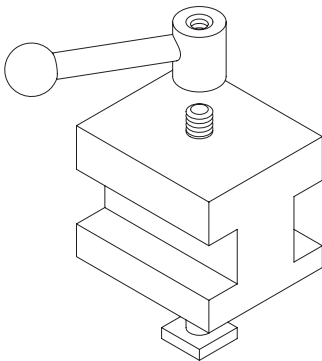
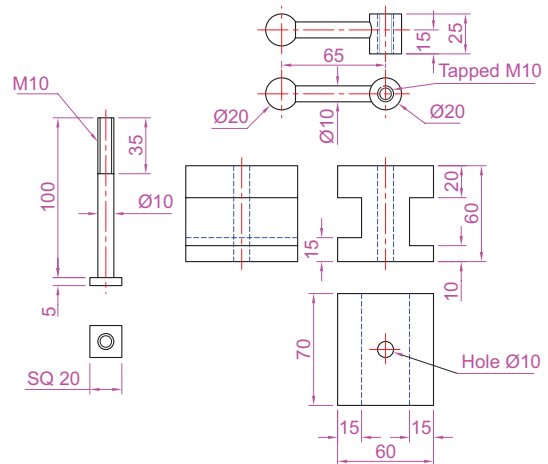

Fig. 8.28 Exercises 4 and 5 – orthographic projections of the three parts of the tool holder
Fig. 8.29 Exercises 4 and 5 – orthographic drawing of the tool holder on which the two exercises are based
4. Construct a three-view orthographic projection in an angle of your own choice of the tool holder assembled as shown in the isometric drawing Fig. 8.28. Details are given in Fig. 8.29.
- 5. Construct an isometric drawing of the body of the tool holder shown in Figs 8.28 and 8.29.